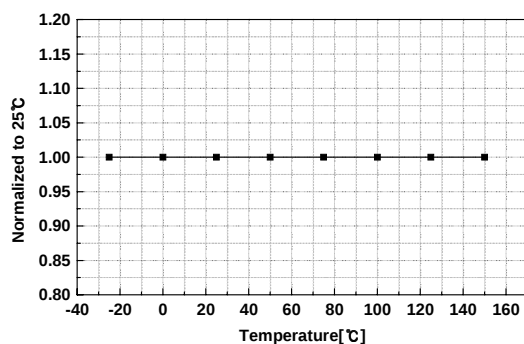

Figure 4. Stop Threshold Voltage vs. Temp.
3.1 Abnormal Over Current Protection (AOCP) : When the secondary rectifying diodes or the transformer pins are shorted, a steep current with extremely high di/dt can flow during the LEB time. Therefore, the abnormal over current protection (AOCP) block is added to ensure the reliability as shown in figure 4. It turns off the SenseFET within 300ns after the abnormal over current condition is sensed.